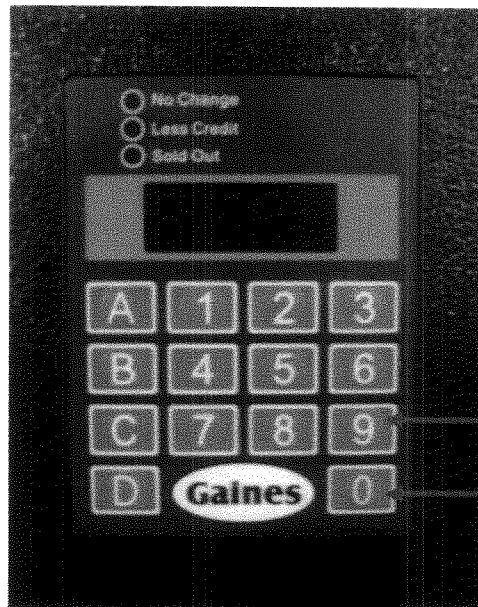

Figure 25 – Key Up/ Down Buttons
- c. Press the up/down keys on the Keypad to scroll to “Prc” mode (*reference figure 25*).